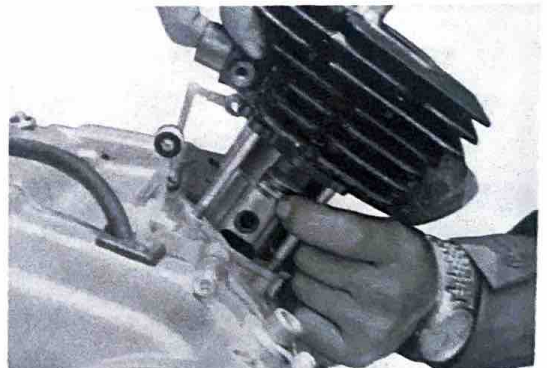

Fig. 4-3-8
- b. When installing the cylinder over the piston, squeeze the piston rings into their grooves (their end gaps should close on the knock pin) so they will not catch and break on the bottom of the cylinder. (Fig. 4-3-8)